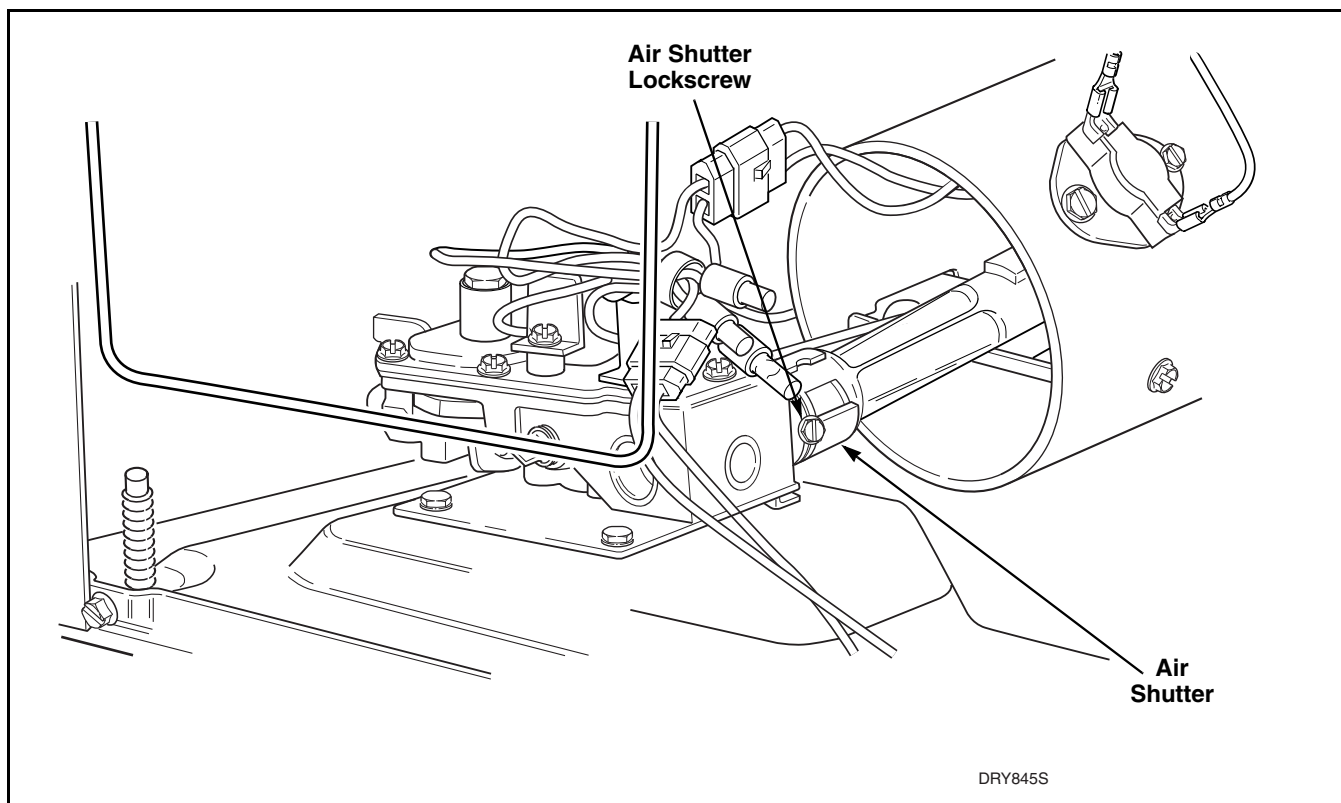

Figure 42
f. Allow dryer to operate for approximately five minutes. Observe burner flame and loosen air shutter lockscrew. Refer to *Figure 42*.
h. Tighten air shutter lockscrew securely. Refer to *Figure 42*.